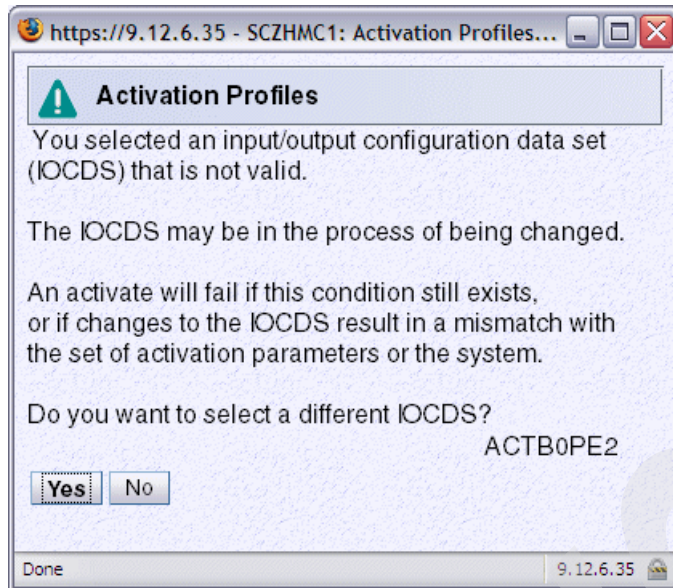

Figure 3-95 HMC - Activation Profiles (IOCDS not valid warning message)
7. Click **Yes** and notice the warning message that is displayed (Figure 3-95 on page 132).